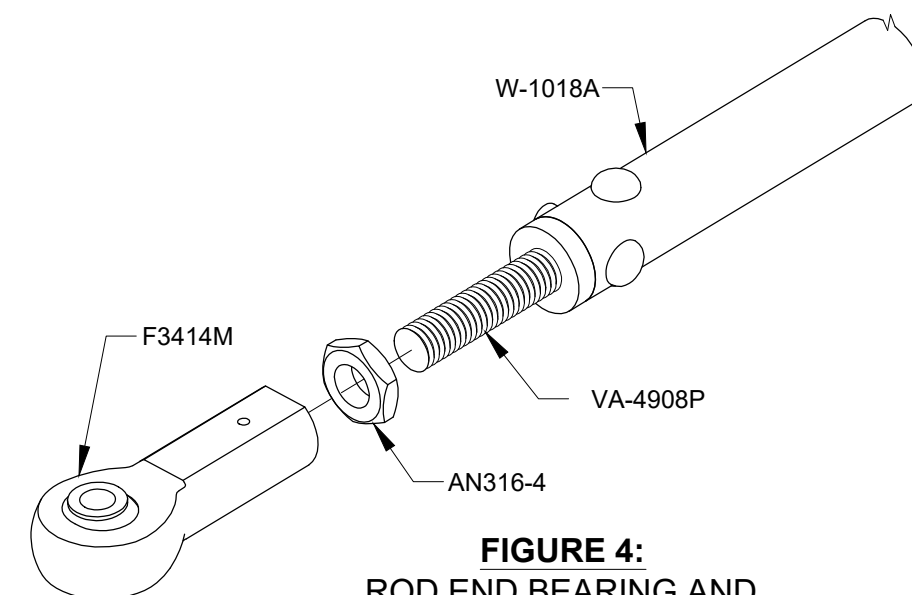

FIGURE 4:
Step 4: Install rod end bearings and jam nuts into the VA-4908P Threaded Rod Ends as shown in Figure 4. Theoretically the correct engagement of the rod end bearings yields a bearing center-to-bearing center length of 25 1/4 inches. The rod end bearing engagement may be adjusted during installation of the W-1018 Bellcrank to Aileron Pushrod.